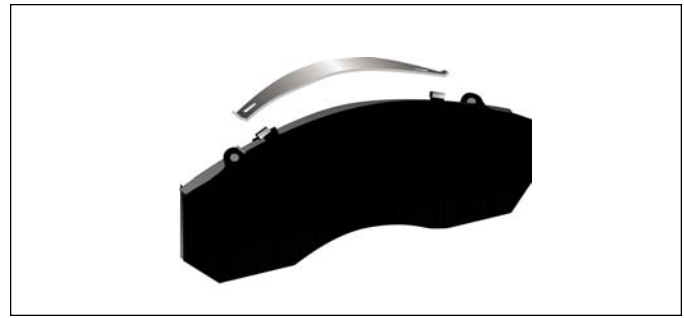

Figure 7 - Pad Retaining Spring Installation
2. Install the pad retaining springs(2) onto the brake pads(1) by inserting one end of the spring onto the lug at the top of the brake pad (See Figure 7). Carefully apply enough force to permit the second lug to fully engage, taking care to keep fingers etc. away from the spring as it seats.